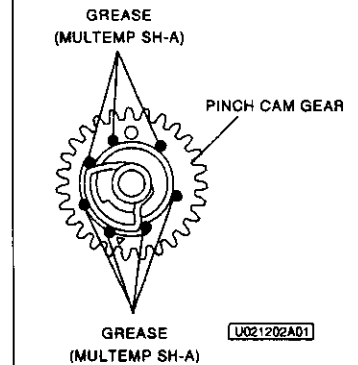

Fig. 2-12-2
- Apply GREASE (MULTEMP SH-A [859D055080]) to the area specified in Fig. 2-12-2 on the new PINCH CAM GEAR.